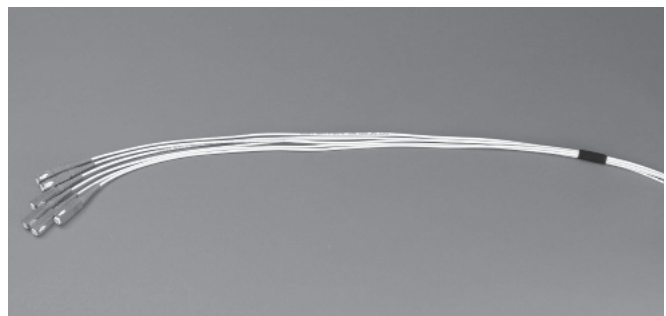

Figure 8
14. Wrap a lap of felt tape around the jumpers approximately 20" from the connector end.(Figure 8) Wrap the jumpers in a bundle, or wrap them individually. Insert the jumper or pre-connectorized cable through the pierced or slit cable seal. Slide the seal up the cable about two feet.